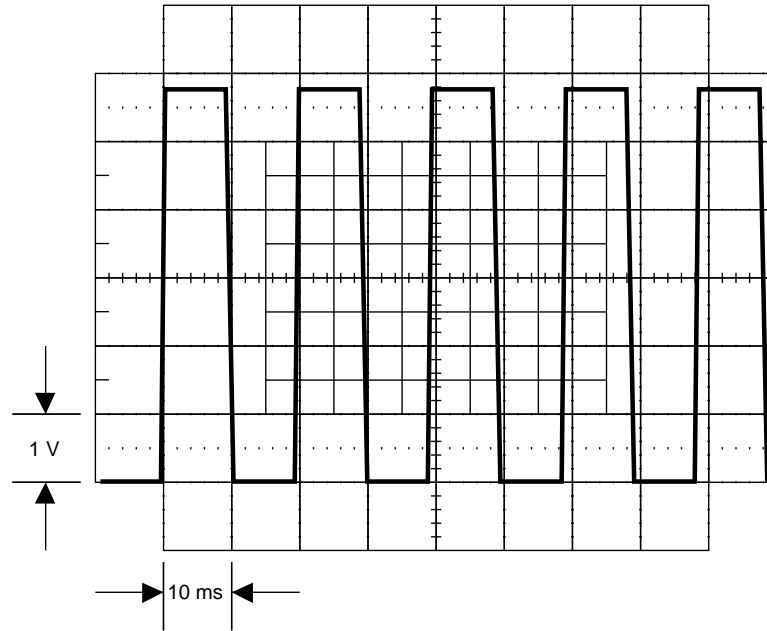

Figure 5-32. Waveform at Pin 18 of Hybrid H4
12. Remove the hybrid cover from the H4 assembly. Unsolder the right end of resistor R37 (node with R37, Z5 pins 2 and 3), labeled G+ on the schematic, and lift this end out of the circuit board. Connect an external ac reference to the lifted end of R37 and reinstall the assembly on the extender card. Power up the 5700A. Set the external ac reference to 1V at 1 kHz and connect an oscilloscope to the output of the H4 Hybrid (node with R42, R44, and H4 pin 18). Verify the oscilloscope displays a square wave similar to Figure 5-32. If a failure is detected, check the H4 Hybrid assembly.
13. Connect an oscilloscope to pin 7 of U3B and verify it displays a square wave equal to the positive peaks of Figure 5-32. Next, connect the oscilloscope to pin 1 of U3A and verify it displays a square wave equal to the negative peaks of Figure 5-32. If a failure is detected, check U3 and associated components.